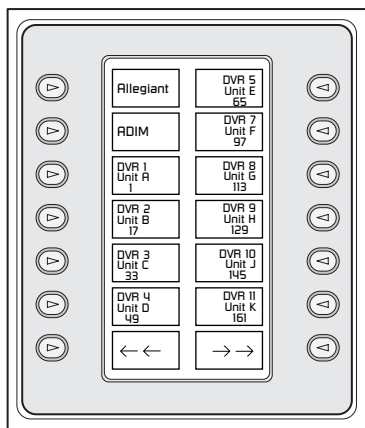

Figure 3-2 Main Product Selection Menu
1. Press the **PROD** button to put the keyboard in the *Product Selection Mode*. The softkey display shows the *Product Selection* menu (refer to **Figure 3-2**).
1. Press **PROD** to view the **Product Selection** menu (see **Figure 3-2**).